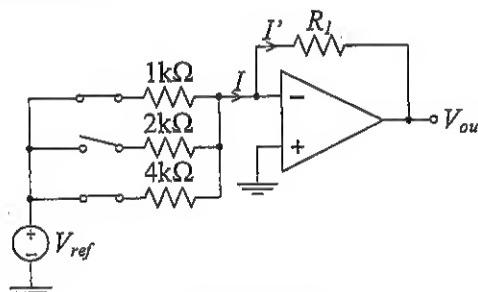

Figure Q2(d)
- List THREE (3) processor technologies and their benefits. [6 marks]
- Selection of the best processor must be aligned to the application. List THREE (3) efficiencies that must be considered during the selection process and identify ONE (1) method to improve each of these efficiencies. [3 marks]
- (c) Narrowband Internet of Things (NB-IoT) is a low-power wide-area network (LPWAN) technology developed by 3GPP to enable a wide range of new IoT devices and services. Briefly discuss TWO (2) strengths and TWO (2) weaknesses of NB-IoT comparing to LoRa technology. [6 marks]
- (d) For the digital-to-analog converter (DAC) shown in Figure Q2(d), determine R_I if $V_{ref} = 5V$ and $V_{out} = -3.125V$. [4 marks]